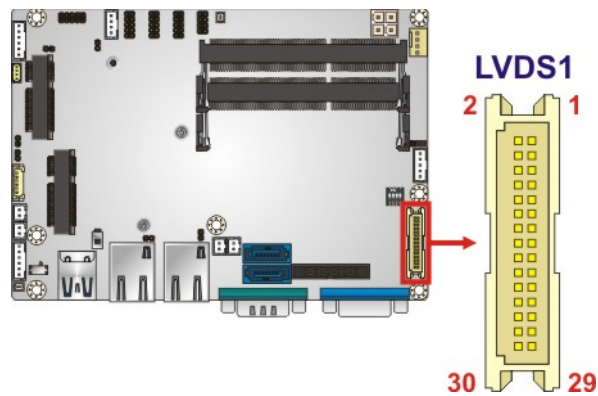

Figure 3-16: LVDS Connector Location
- CN Location: See Figure 3-16